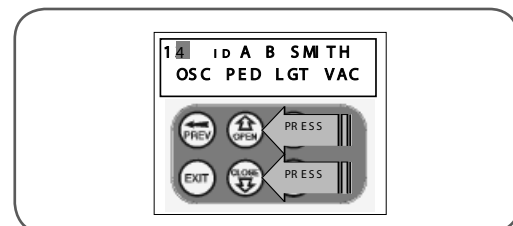

fig 26
2. Press UP or DOWN to select new Store No (**Fig. 26**).